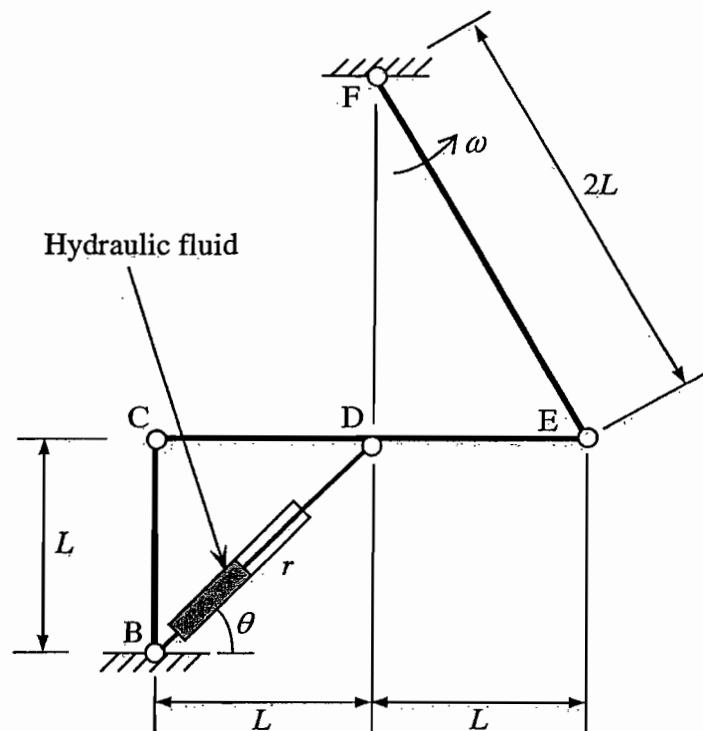

Fig. 6
6 Figure 6 shows a mechanism composed of three rigid links (BC, CDE and EF) and a hydraulic actuator (BD) connected by pin-joints. The fluid in the actuator acts on a piston of area  $A$ . Hydraulic fluid is to be pumped to the actuator at a varying volumetric flow rate  $Q$  in order to maintain a constant angular velocity  $\omega$  of the rigid link EF.
(b) Determine the flow rate  $Q$  necessary to achieve an angular velocity of  $\omega$  for the rigid link EF when the mechanism is in the configuration shown in Fig. 6 with  $\theta = 45^\circ$ . [8]